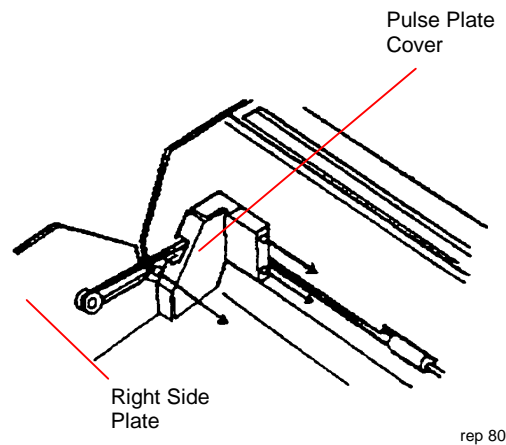

Figure 1. Removing the Cover
3. (Figure 1): Remove the three screws and remove the Pulse Plate Cover.